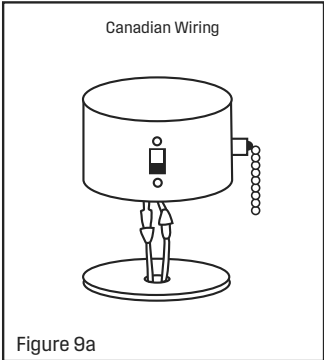

Figure 9a
5. NOTE: For French Canadian specs, please use the plug system (See figure 9a). If using with a UL spec fan, please cut off plugs, and wire with wire nuts provided with the fan.